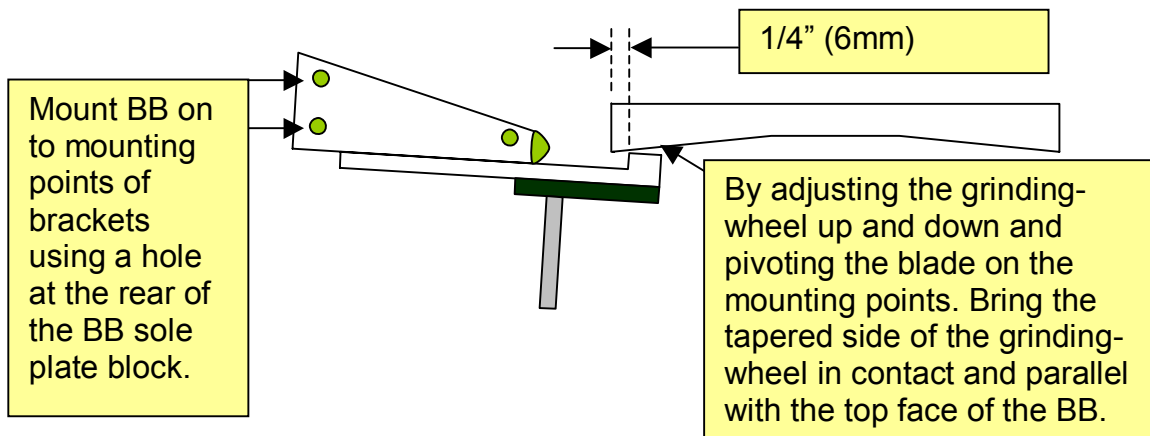
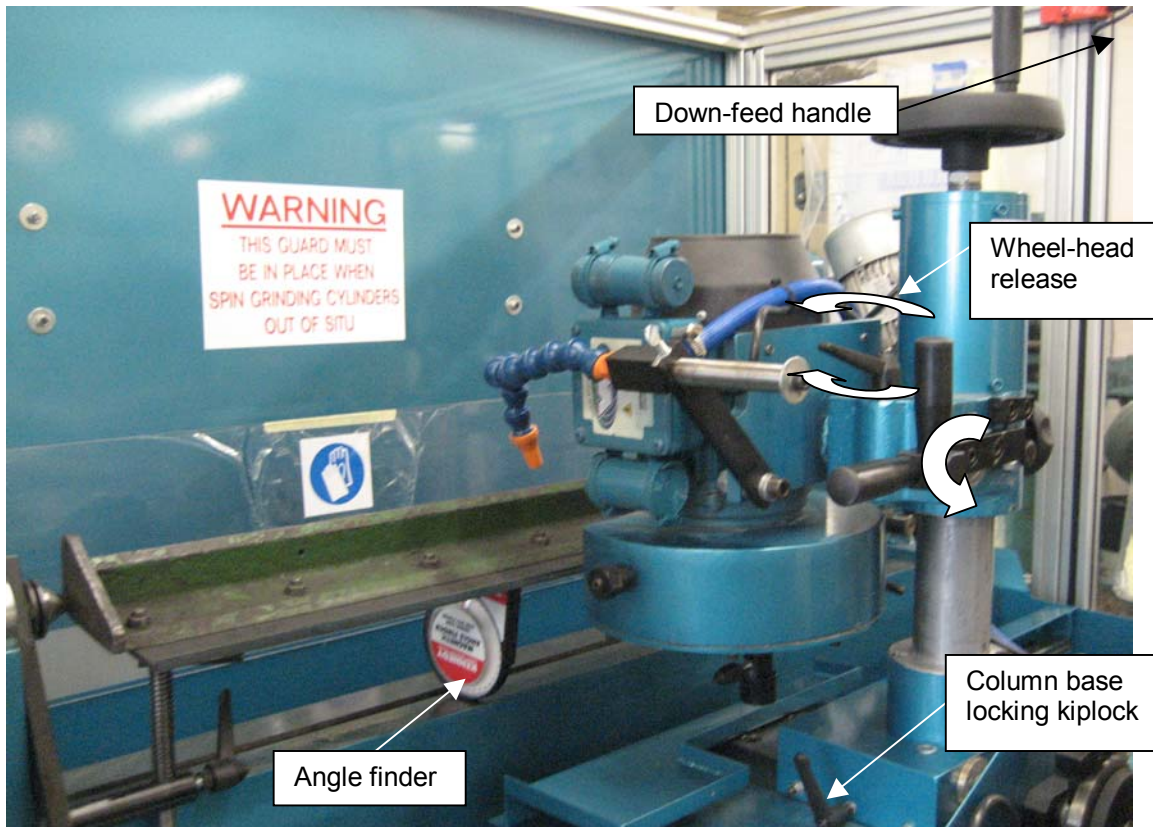
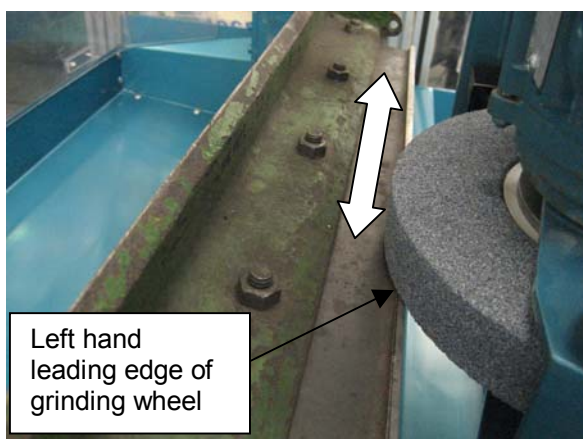

Figure 42a – position of grinding wheel over blade
Fig 43 – Wheel-head rotated into bottom blade grinding mode
Figure 44 – showing left hand leading edge
The grinding head must be turned so that the side face of the wheel is horizontal, i.e. the wheel axis is vertical (fig 43). To do this, wind the grinding head out away from the bottom blade and slacken the downward friction locking screw on the front of the wheel-head column. Wind up the wheel-head column, by using the hand-wheel situated on the top of the column, to a reasonable height. Slacken the wheelhead rotation lock, next to the handle used to traverse the wheel-head from side to side, take hold of the motor and swing it through 90 degrees anti-clockwise until it comes to a stop. Retighten the rotation lock and now take out any slack in, but do not tighten, the downward friction knob. Figure 36 shows the grinding head in the cylinder grinding position. For bottom blade grinding the head is pivoted to the left.
Bring the grinding head to the mid point of the bottom blade and, using the front hand wheel, bring the grinding wheel over the top of the bottom blade, so that the blade is still approximately horizontal and the grinding wheel is about  $\frac{1}{4}$ " (6mm) past the lip or surface of the blade which is to be ground (fig 42a/42b) then lock the column base locking kiplock (fig 43).
Manually traverse the grinding wheel-head from left to right along the length of the bottom blade. Make small downward adjustments using the down-feed handle located on the top of the column (fig 43) until you have light contact across the blade (contact should only be with the left hand leading edge of the grinding wheel fig44). You will have to adjust the right hand jacking plate adjusting lever (fig35) either up or down to get the bottom blade level with the grinding wheel.
**TIP** when setting contact at each end of the bottom blade set the wheel approx 50mm in from the ends of the blade to allow for any high spots sometimes found at the very ends of worn blades. Remember contact is only achieved with the wheels left hand leading edge of the grinding wheel (fig 44).